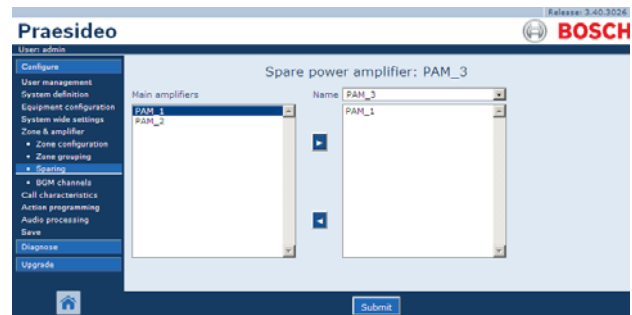

figure 45.11: Sparing, step 1
- 1 Go to *Configure > Zone & amplifier > Sparing*. A screen similar to the one in figure 45.11 appears in the main frame of the web interface.